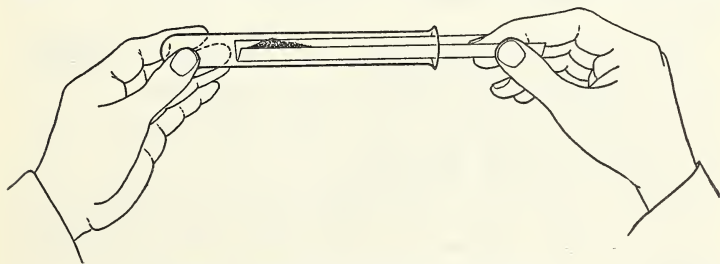

Fig. 6. Introducing a solid into a test-tube.
8. Putting a solid into a test-tube. Cut a piece of stiff, glazed paper an inch longer and slightly wider than the diameter of the test-tube used. Fold it lengthwise to form a V-shaped trough. Place the solid near one end of the trough. Hold the test-tube in a horizontal position and slide the trough inside the tube, as shown in Figure 6. By inclining the tube and gently tapping the paper, the